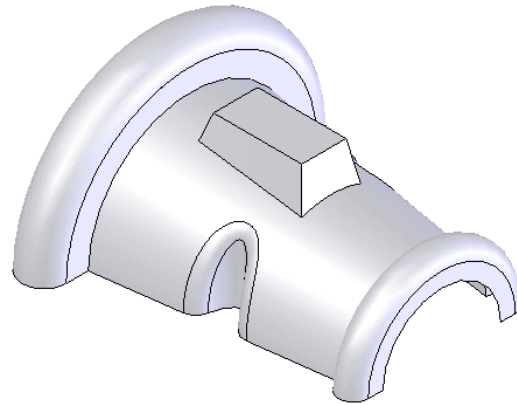

Figure 15-112 Resultant planar surface
3. Choose the **OK** button from the **Planar Surface PropertyManager**. Figure 15-112 shows the resultant planar surface.